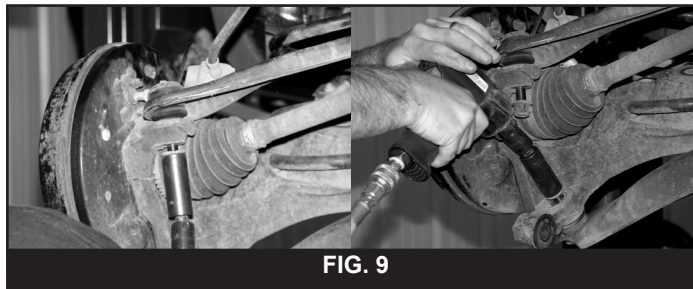

FIG. 9
33. Remove the upper and lower control arm-to-knuckle ball joint nuts (Fig 9). Strike the knuckle with a hammer near the ball joints to dislodge them from the knuckle or use a pickle fork. **Note: If replacing the OE upper control arms with BDS 123159 Adjustable upper control arms, remove the inside upper control arm mounting bolt and remove the arm from the vehicle.**